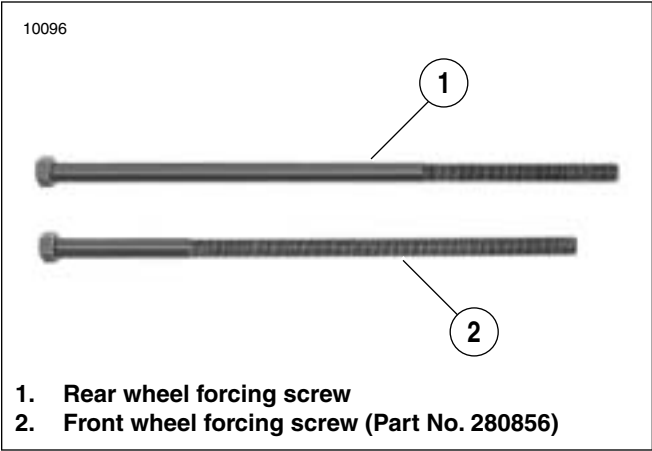

Figure 2. Forcing Screws Used for Front and Rear Wheel Bearing Installation
See Figure 2. When installing rear wheel bearings it is necessary to use the FORCING SCREW (1) from the STEERING HEAD BEARING RACE INSTALLER (Part No. HD-39302).